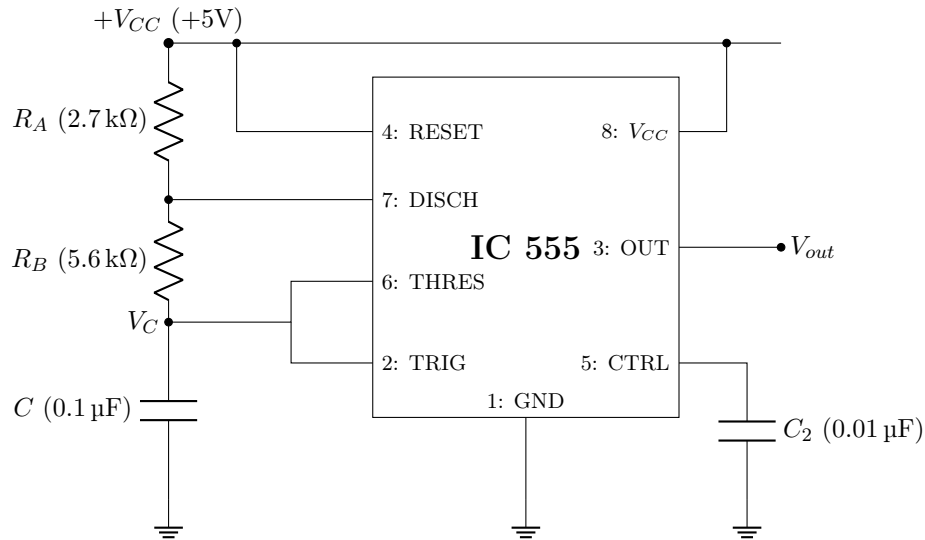

Figure 11.1: IC 555 Astable Multivibrator Schematic
The schematic for the 555 Astable Multivibrator circuit is presented in Figure 11.1.
1. Assemble the circuit on a breadboard using $R_A = 2.7 \text{ k}\Omega$, $R_B = 5.6 \text{ k}\Omega$, and $C = 0.1 \text{ } \mu\text{F}$ according to Figure 11.1.